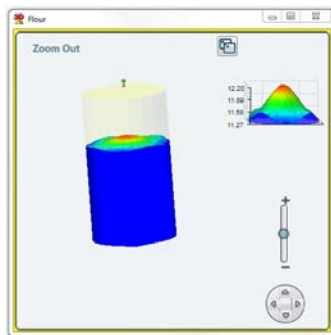

Figure 32: Product 3-Dimensional profile
- 6 To view a 3-dimensional profile, right-click on a vessel in the main work area and select **Show 3D Profile** from the drop-down menu. The profile window opens (Figure 32).